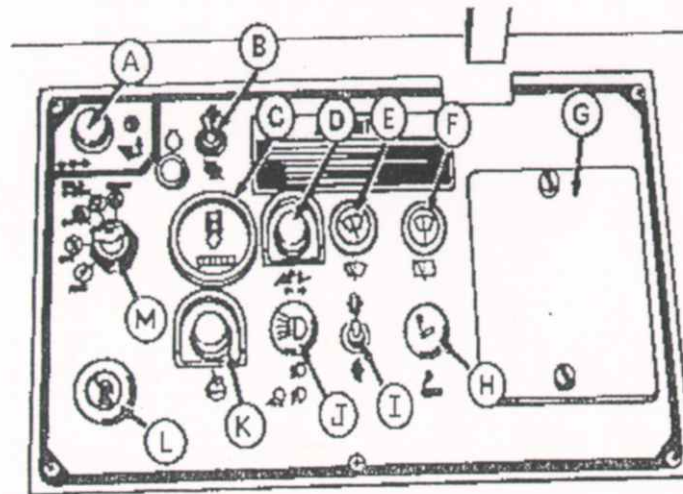

Figure 1-2
(14) PARKING BRAKE INDICATOR (N): If parking brake is engaged and the direction selector lever is in neutral, the service required light will light. If parking brake is engaged and the direction selector lever is in forward or reverse, the stop engine indicator will flash and alarm will sound.
(15) TRANSMISSION OIL LOW PRESSURE INDICATOR (O): Indicator will light and service required indicator will light when transmission oil pressure is low.
(16) RIGHT TURN SIGNAL INDICATOR (P): Indicator will light when right turn signal switch is engaged.
(17) LEFT TURN SIGNAL INDICATOR (Q): Indicator will light when left turn signal switch is engaged.
(18) FUEL GAUGE (R): The fuel gauge indicates the amount of fuel in the tank.
b. This control panel, figure 1-2, is located to the right of the operator's seat.